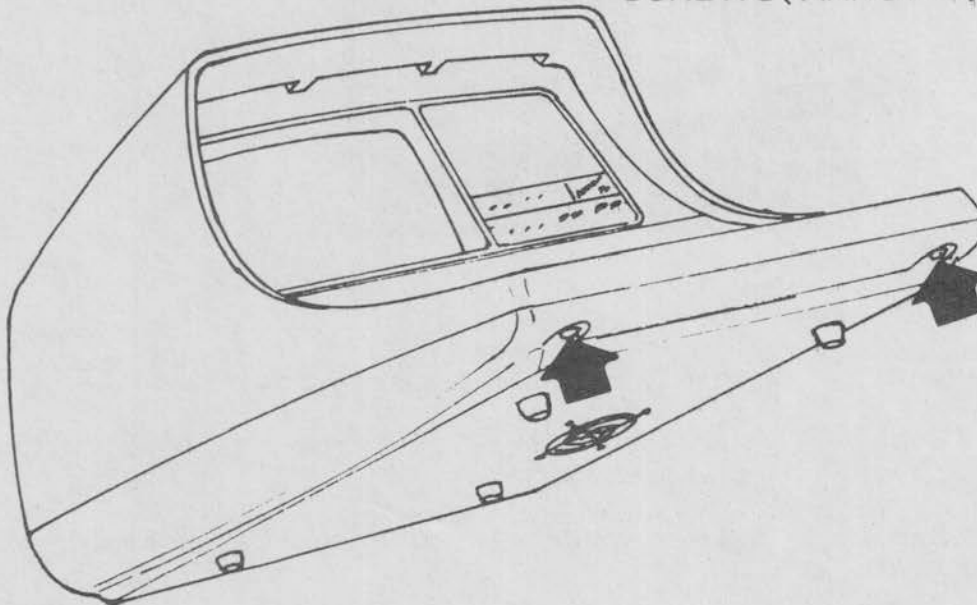

Figure 2-4. Shroud Removal
3. To remove top cover, remove 4 Phillips head screws as shown in Figure 2-4.